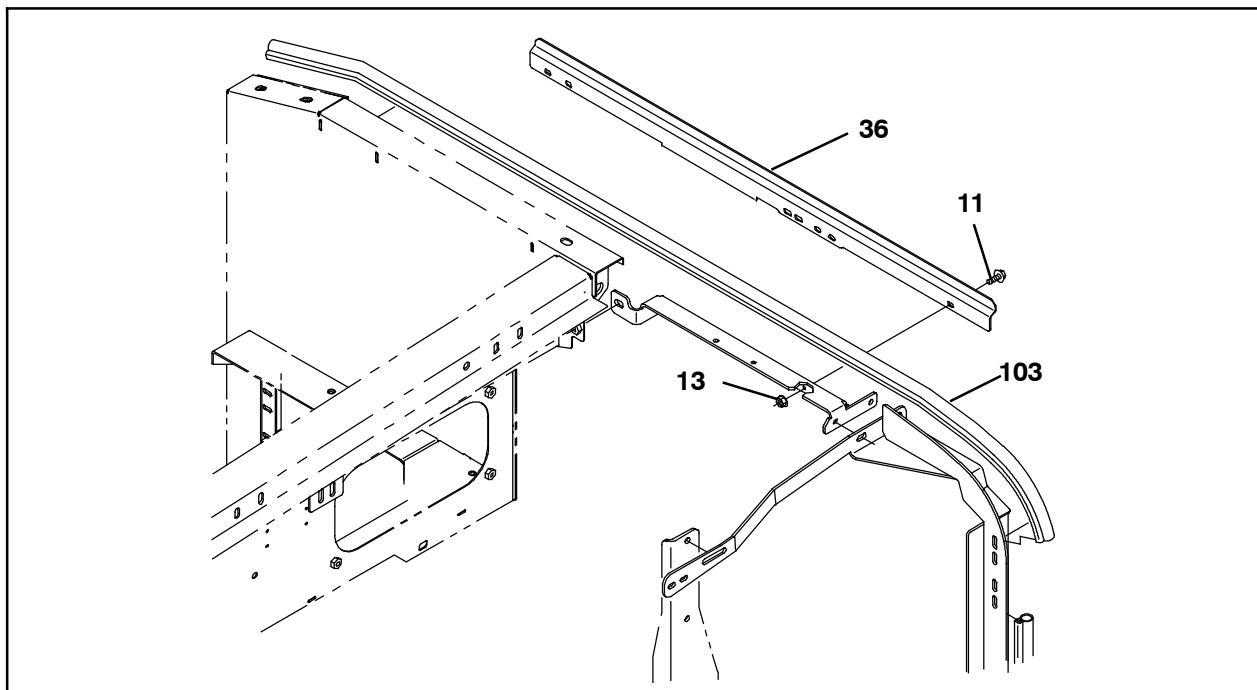
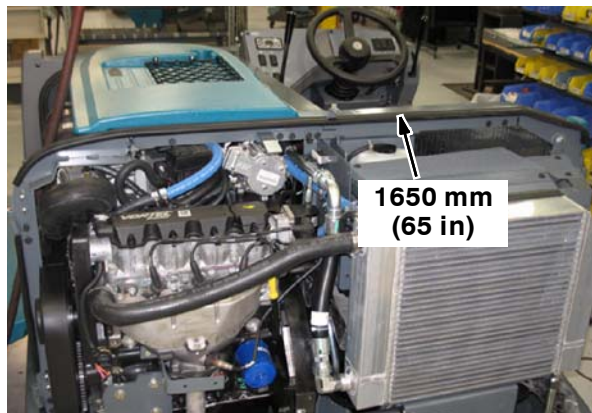

FIG. 69
FIG. 72
85. Use three SEMS hex screws (11) and three hex nuts (13) to install the rear shroud support bracket (36) onto the machine. (Fig. 69)
87. Install the 1650 mm (65 in) seal (103) onto the machine. (Fig. 72 / Fig. 69)